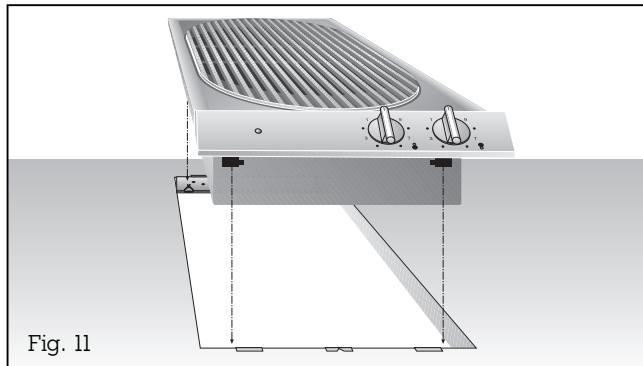

Fig. 11
- **Lower the appliance into the worktop.** Make sure that the engaging lugs on the appliance lie exactly on the clamping springs. Press the appliance firmly into the worktop. The engaging lugs on the appliance “snap” into the clamping springs in the securing rails (Fig. 11).